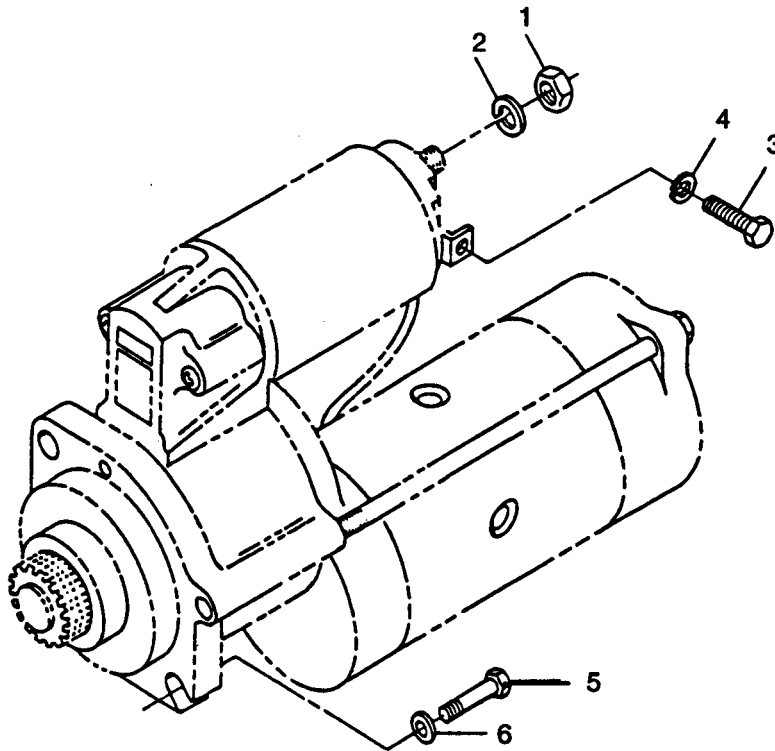

FIGURE 3-21. Starter Connection and Mounting Hardware
- a. Remove nuts (1, FIGURE 3-21), lockwashers (2), capscrew (3), and lockwasher (4). Tag and disconnect all electrical leads. Discard lockwashers.
- b. Support weight of starter and remove two capscrews (5) and washers (6) securing starter. Remove starter.